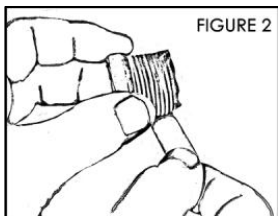

FIGURE 2
U.S. Solid Valves follow National Standards for pipe thread. In the U.S.A. we use NPT, while in England we use BSPT. We recommend use of teflon tape to ensure seal of the NPT threading, as shown in Figure 2.